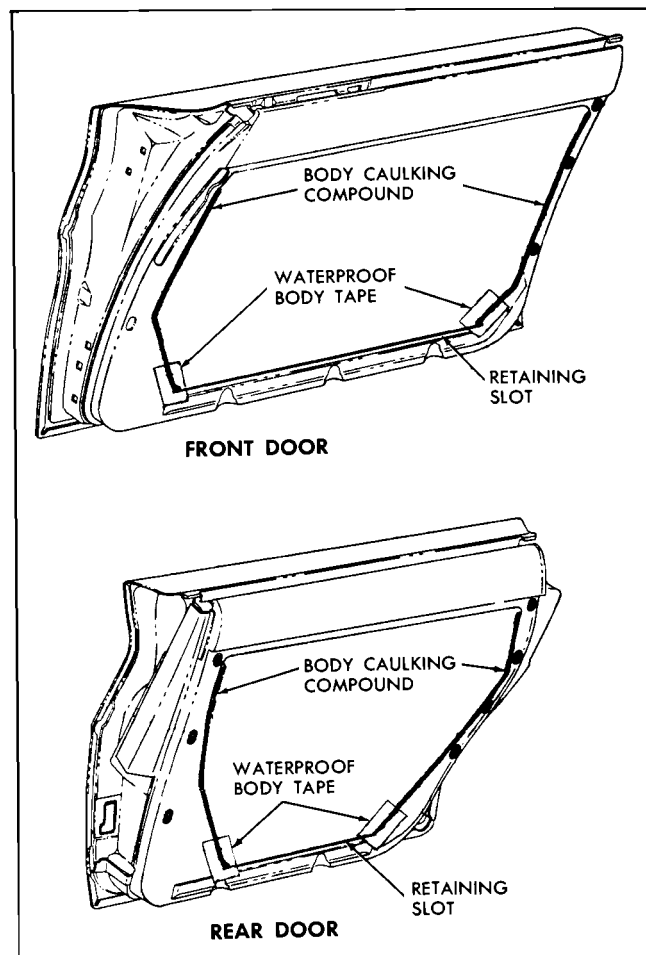

Fig. 10A-35 Inner Door Panel Water Deflector Installation
5. Seal lower corners of deflector with 2" or 2½" waterproof body sealing tape (Fig. 10A-28).